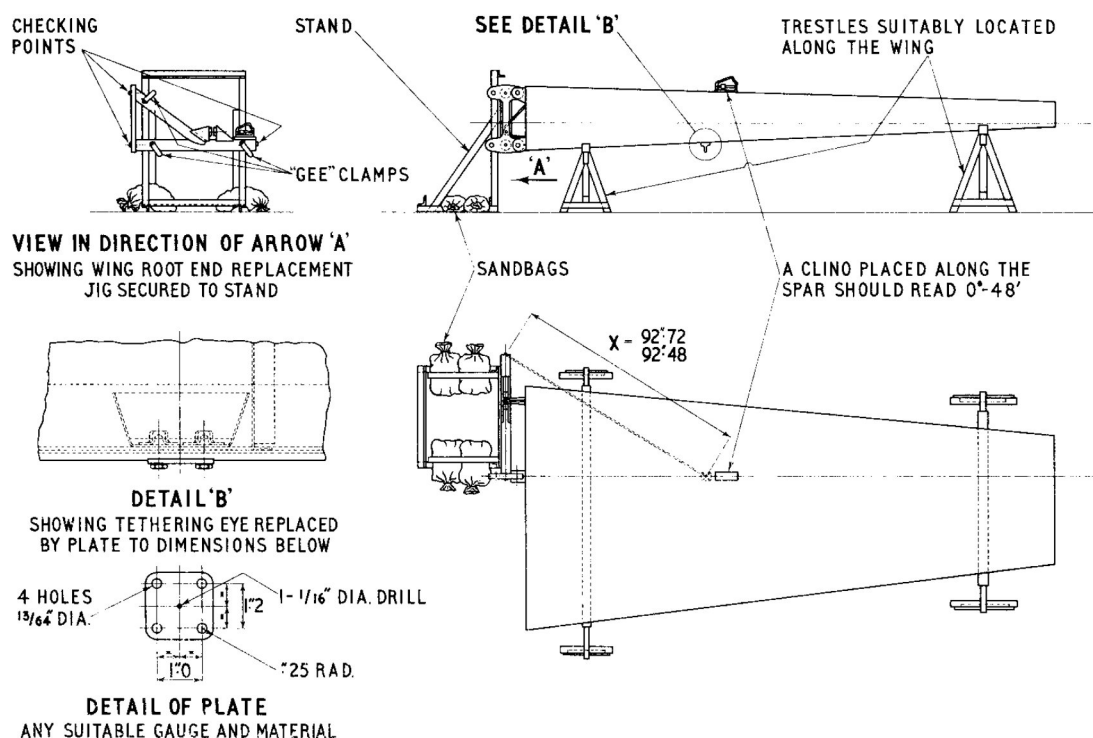
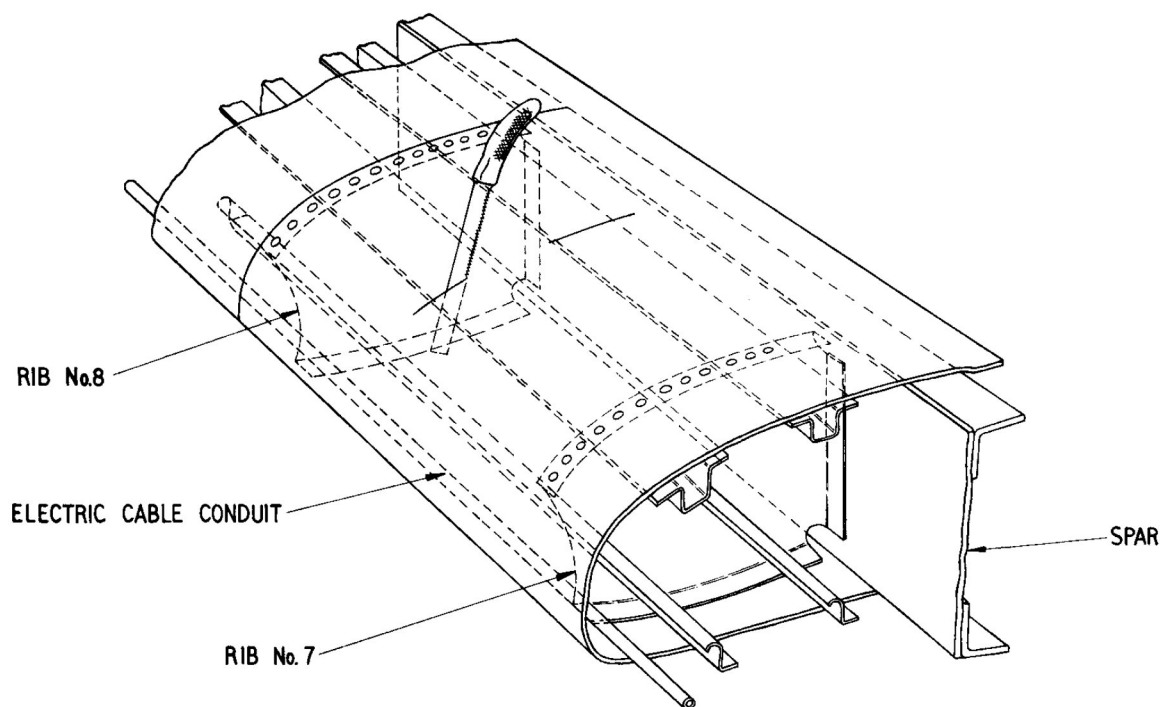

Fig. 1. Trestling and checking methods
Fig.2. Cutting stringers
1. (1) Trestle the wing as shown in fig. 1.
(2) Remove the fabric from the root end to a point somewhere between rib No. 8 and No. 9.
(3) Disconnect outer ends of electrical cables in conduit in leading edge, pull cables clear and cut locally through skin to sever top and bottom stringers and the conduit midway between stations No. 70 and 80 (fig. 2).
(4) Detach skin from rib at station No. 80 and from stringer portions between stations 75 and 80.
(5) Detach ribs from spar web from station No. 70 to root.
(6) Detach skins from spar flanges from station No. 80 to root.
(7) Remove root end of "D" nose.
(8) Bell the end of the conduit left in the main plane and detach remaining half of joint strap from end of top stringer next to spar.
(2) Set up jig (part No. RC1. W113) as shown in fig. 1.
(3) Trim outer edge of skin as necessary to allow main and front spars to pick up in jig and satisfy diagonal check dimensions (para. 3).
(4) Pull back ribs to fit flush against the spar web.
Method of using checking jig (fig.1)
- (2) Secure the wing root jig RC.1. W.113 vertically by use of 'G' clamps and verify a reading of the clinometer suitably mounted on the platform provided as 0 deg.
(3) In this position the wing can be offered up to the jig and checked for alignment as follows :- Drop plumb lines through the checking points at the ends of the jig and another from the tethering point on the underside of the wing. The tethering eye should be replaced by a suitable plate holed in the centre through which the plumb line should pass.
(4) The dimension 'X' between the forward checking point on the jig and the tethering point should be within the limits shown (fig.1).